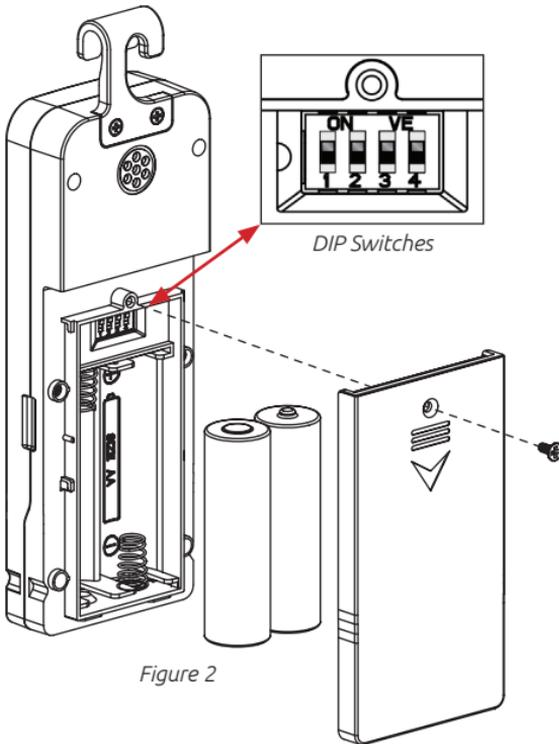

Figure 2
1. Remove the battery door on the back of the transmitter(s) by removing the Phillips-head screw then sliding down the battery door, as shown in Figure 2.